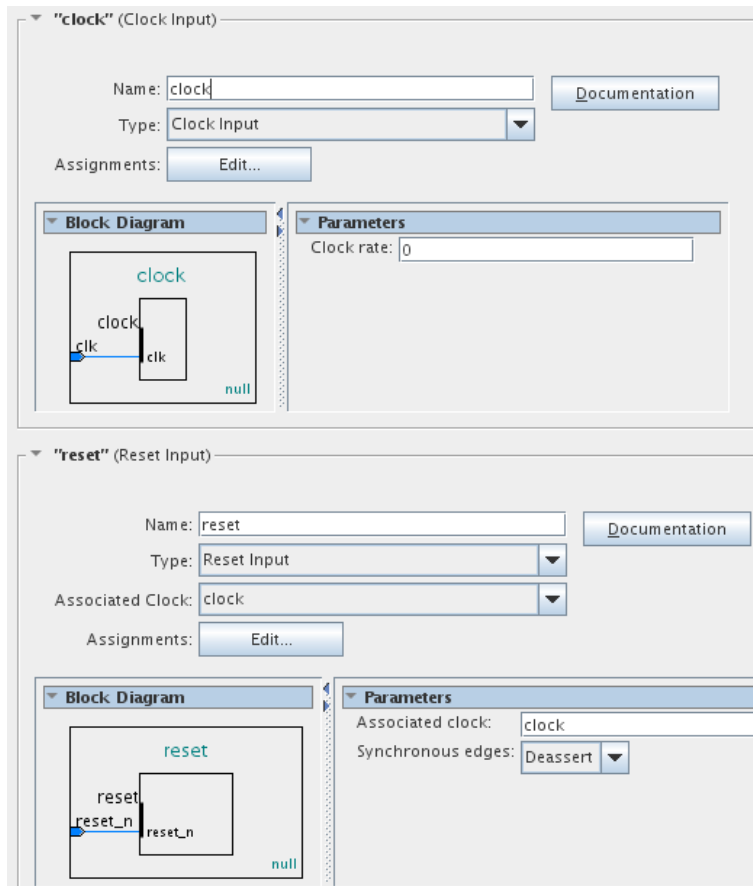

Figure 4: Genesis Component Clock and Reset Configuration
4. Configure the component interfaces as in figures 4, 5, and 6: